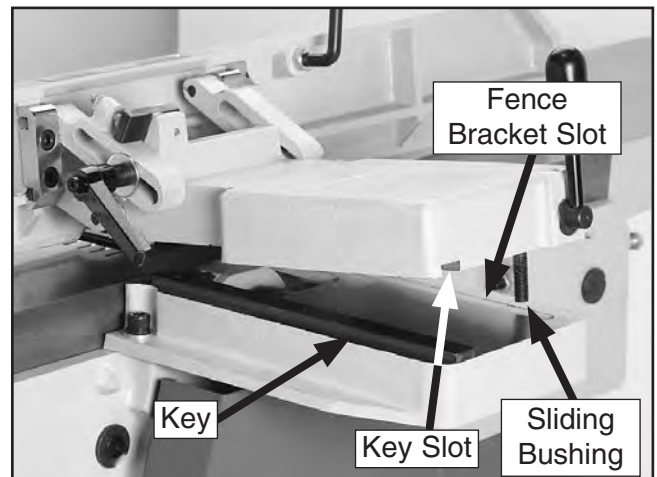

Figure 9. Installing fence assembly.
2. With the help of an assistant, lift the fence assembly over the fence bracket, slip the sliding bushing (**Figure 9**) into the fence bracket slot, and make sure the key and key-way slot fit snugly.